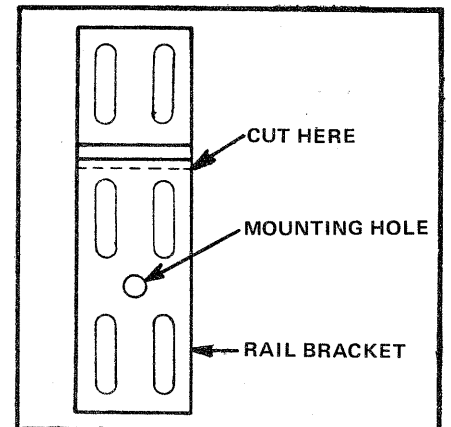

FIGURE 5-4 Cut both of the brackets along the dotted line.
- A. Cut both of the brackets at the point indicated by the dotted line in FIGURE 5-4. Remove any burrs and rough edges with a file.